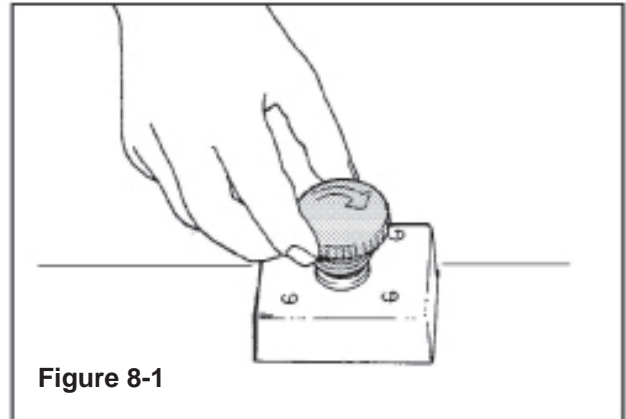

Figure 8-1
- Release the latching emergency stop button by turning it clockwise (**Figure 8-1**).
- The EMERGENCY STOP BUTTON unlocked (**Figure 8-1**)
The LATCHING EMERGENCY STOP BUTTON is located on the top center of the machine (**Figure 8-1**).